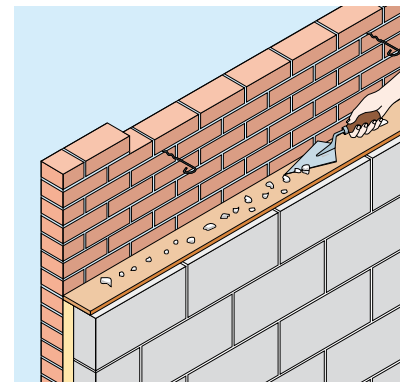
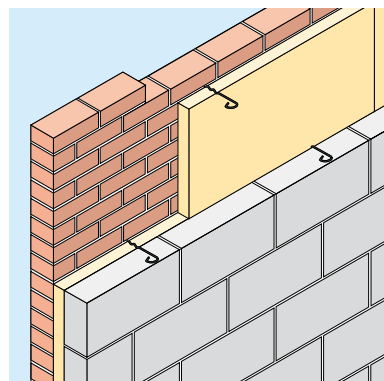
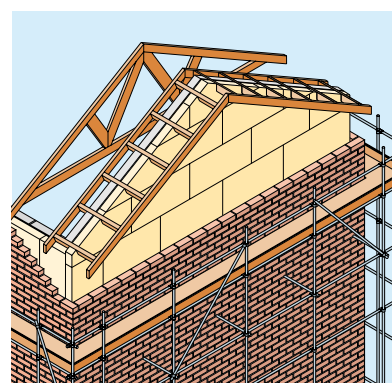

Figure 3
Figure 4
Figure 6 Installation of Batt's in gable end wall
- 4 Before installation of each course of batts, excess mortar must be removed from the inside face of the leading leaf and mortar droppings cleaned from the exposed edges of the batts. This is made easier by the use of a cavity board (Figure 3). This sequence should be maintained progressively up to wallplate (or cavity tray) level. It is important that the insulation is carried to the highest level possible in either case (Figure 6).
- 5 Fit Rockwool Cavity by compressing between the two rows of wall ties to form a clean and tight butt jointed course (Figure 4). Wall tie drips should be located centrally in the Batts (Figure 3). Ties must be inclined downwards towards the outer leaf.
- 9 Repeat this sequence to the top of the wall (see Fig 6). If not, protect the top of the batts with a cavity tray.